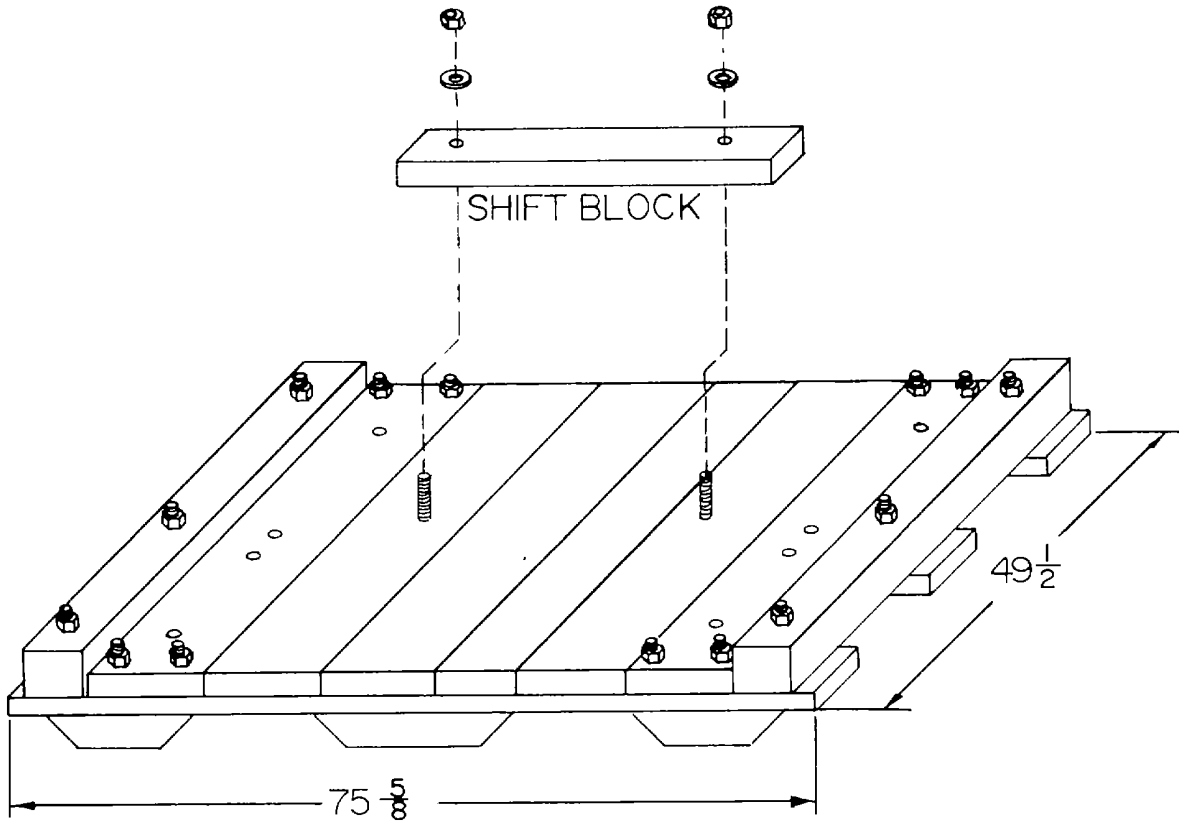

Figure B-2-4. Location of Blocking for the Air Compressor.
<p>2 cont</p>	<p>(4) Depreservation Guides.</p> <p>(a) Complete two DA Forms 2258 for the compressor.</p> <p>(b) Place one copy in a MIL-B-117 bag and heat seal, and mark the bag to indicate "DEPRESERVATION GUIDE." Secure the bags to the compressor.</p> <p>(c) Place the other copy in the logbook.</p> <p>g. Packing for the Air Compressors.</p> <p>(1) Fabricate a MIL-B-26195 box (73 x 46-1/2 x 43-1/2) in accordance with appendix D-2. Refer to table B-2-6 for a list of materials.</p> <p>(2) Cover base with MIL-B-121 barrier.</p> <p>(3) Mount both compressors on base and secure with 1/2- x 4-1/2-inch FF-B-584 bolts, FF-W-92 washer and FF-N-836 nuts. Refer to figure B-2-4 for location and fabrication of blocking.</p> <p>(4) Place crate top over compressors and secure to base with FF-W-92 washer and FF-B-561 lag bolts (3/8 x 3-1/2).</p> <p>(5) Mark container in accordance with appendix E and the following' Mark all four sides of the container with 2-inch minimum size letters to indicate "REUSABLE CONTAINER - DO NOT DESTROY."</p> <p>h. Preservation of the Air Receiver Tank.</p> <p>(1) Open drain cock and remove side plug.</p> <p>(2) Atomize spray interior surfaces of tank with MIL-L-21260, type I, grade 30 preservative oil.</p> <p>(3) Allow excess preservative to drain.</p> <p>(4) Install side plug.</p> <p>(5) Leave drain cock open.</p>